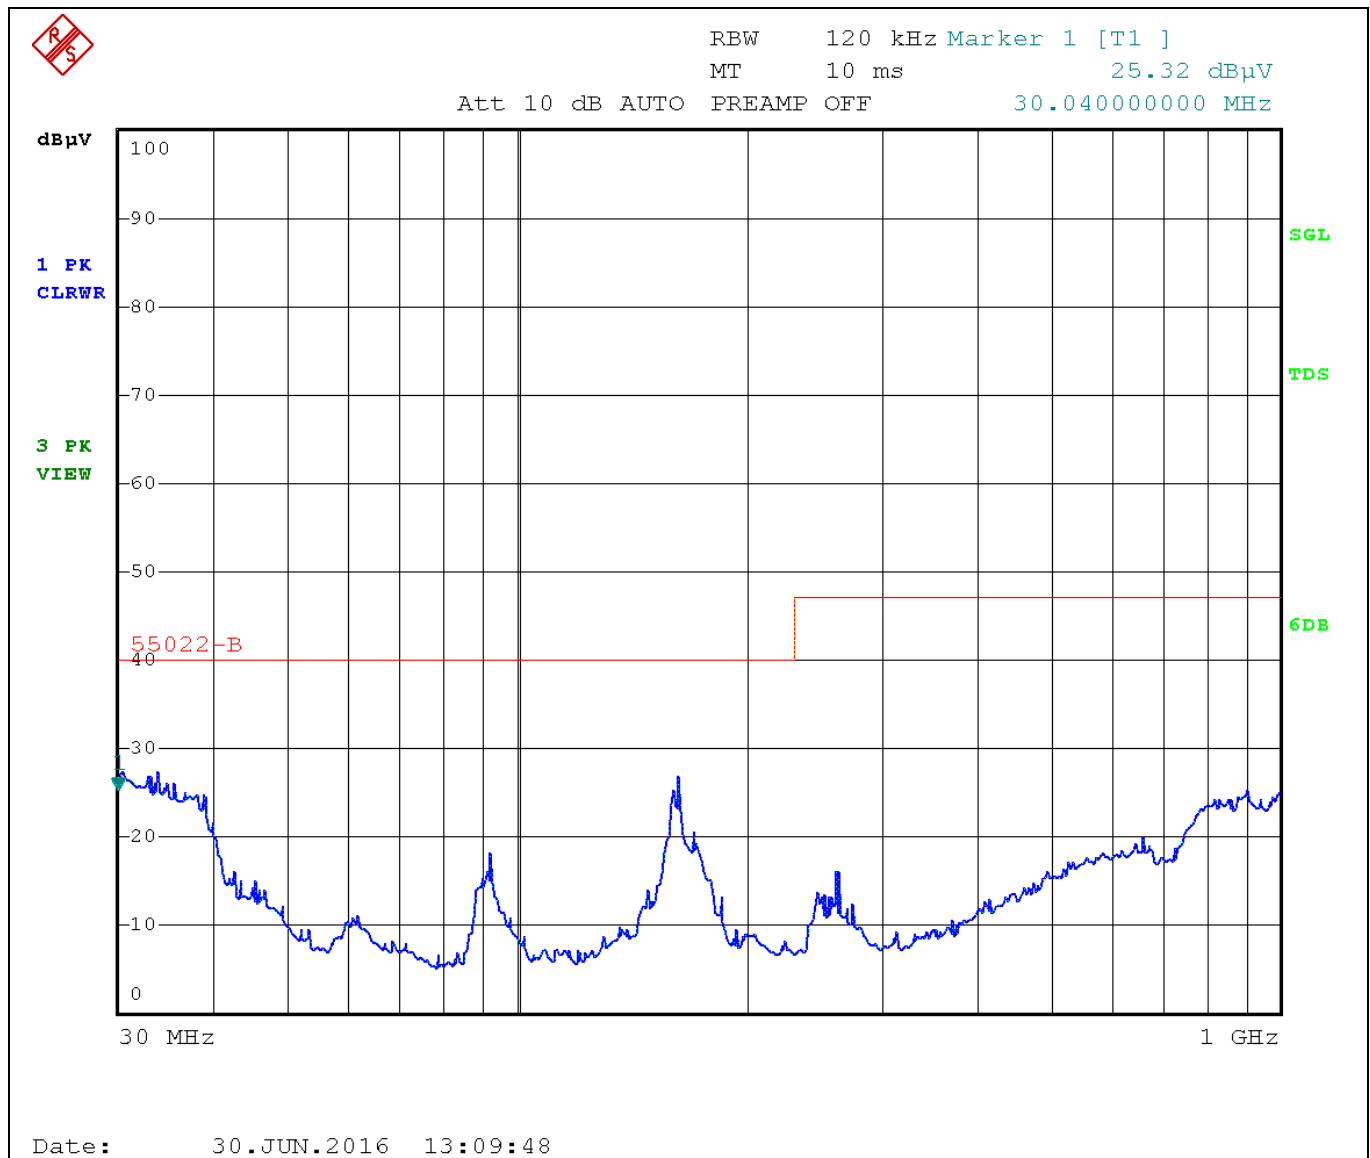

Figure 19 EMI-radiated measurement results. Board positioned perpendicular to the antenna. Antenna position is vertical.
- Board was positioned perpendicular to the antenna and the antenna was vertical (Figure 19)